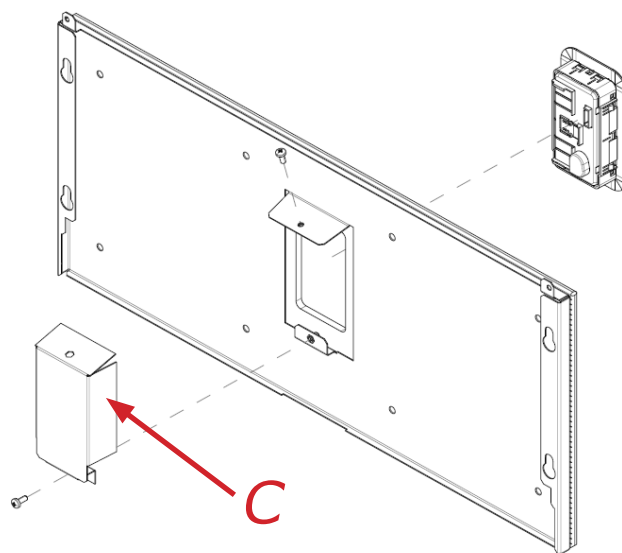

Fig. 114 : Replacing UI
3. Remove the screws highlighted in Fig. 114 to remove metal enclosure marked C.